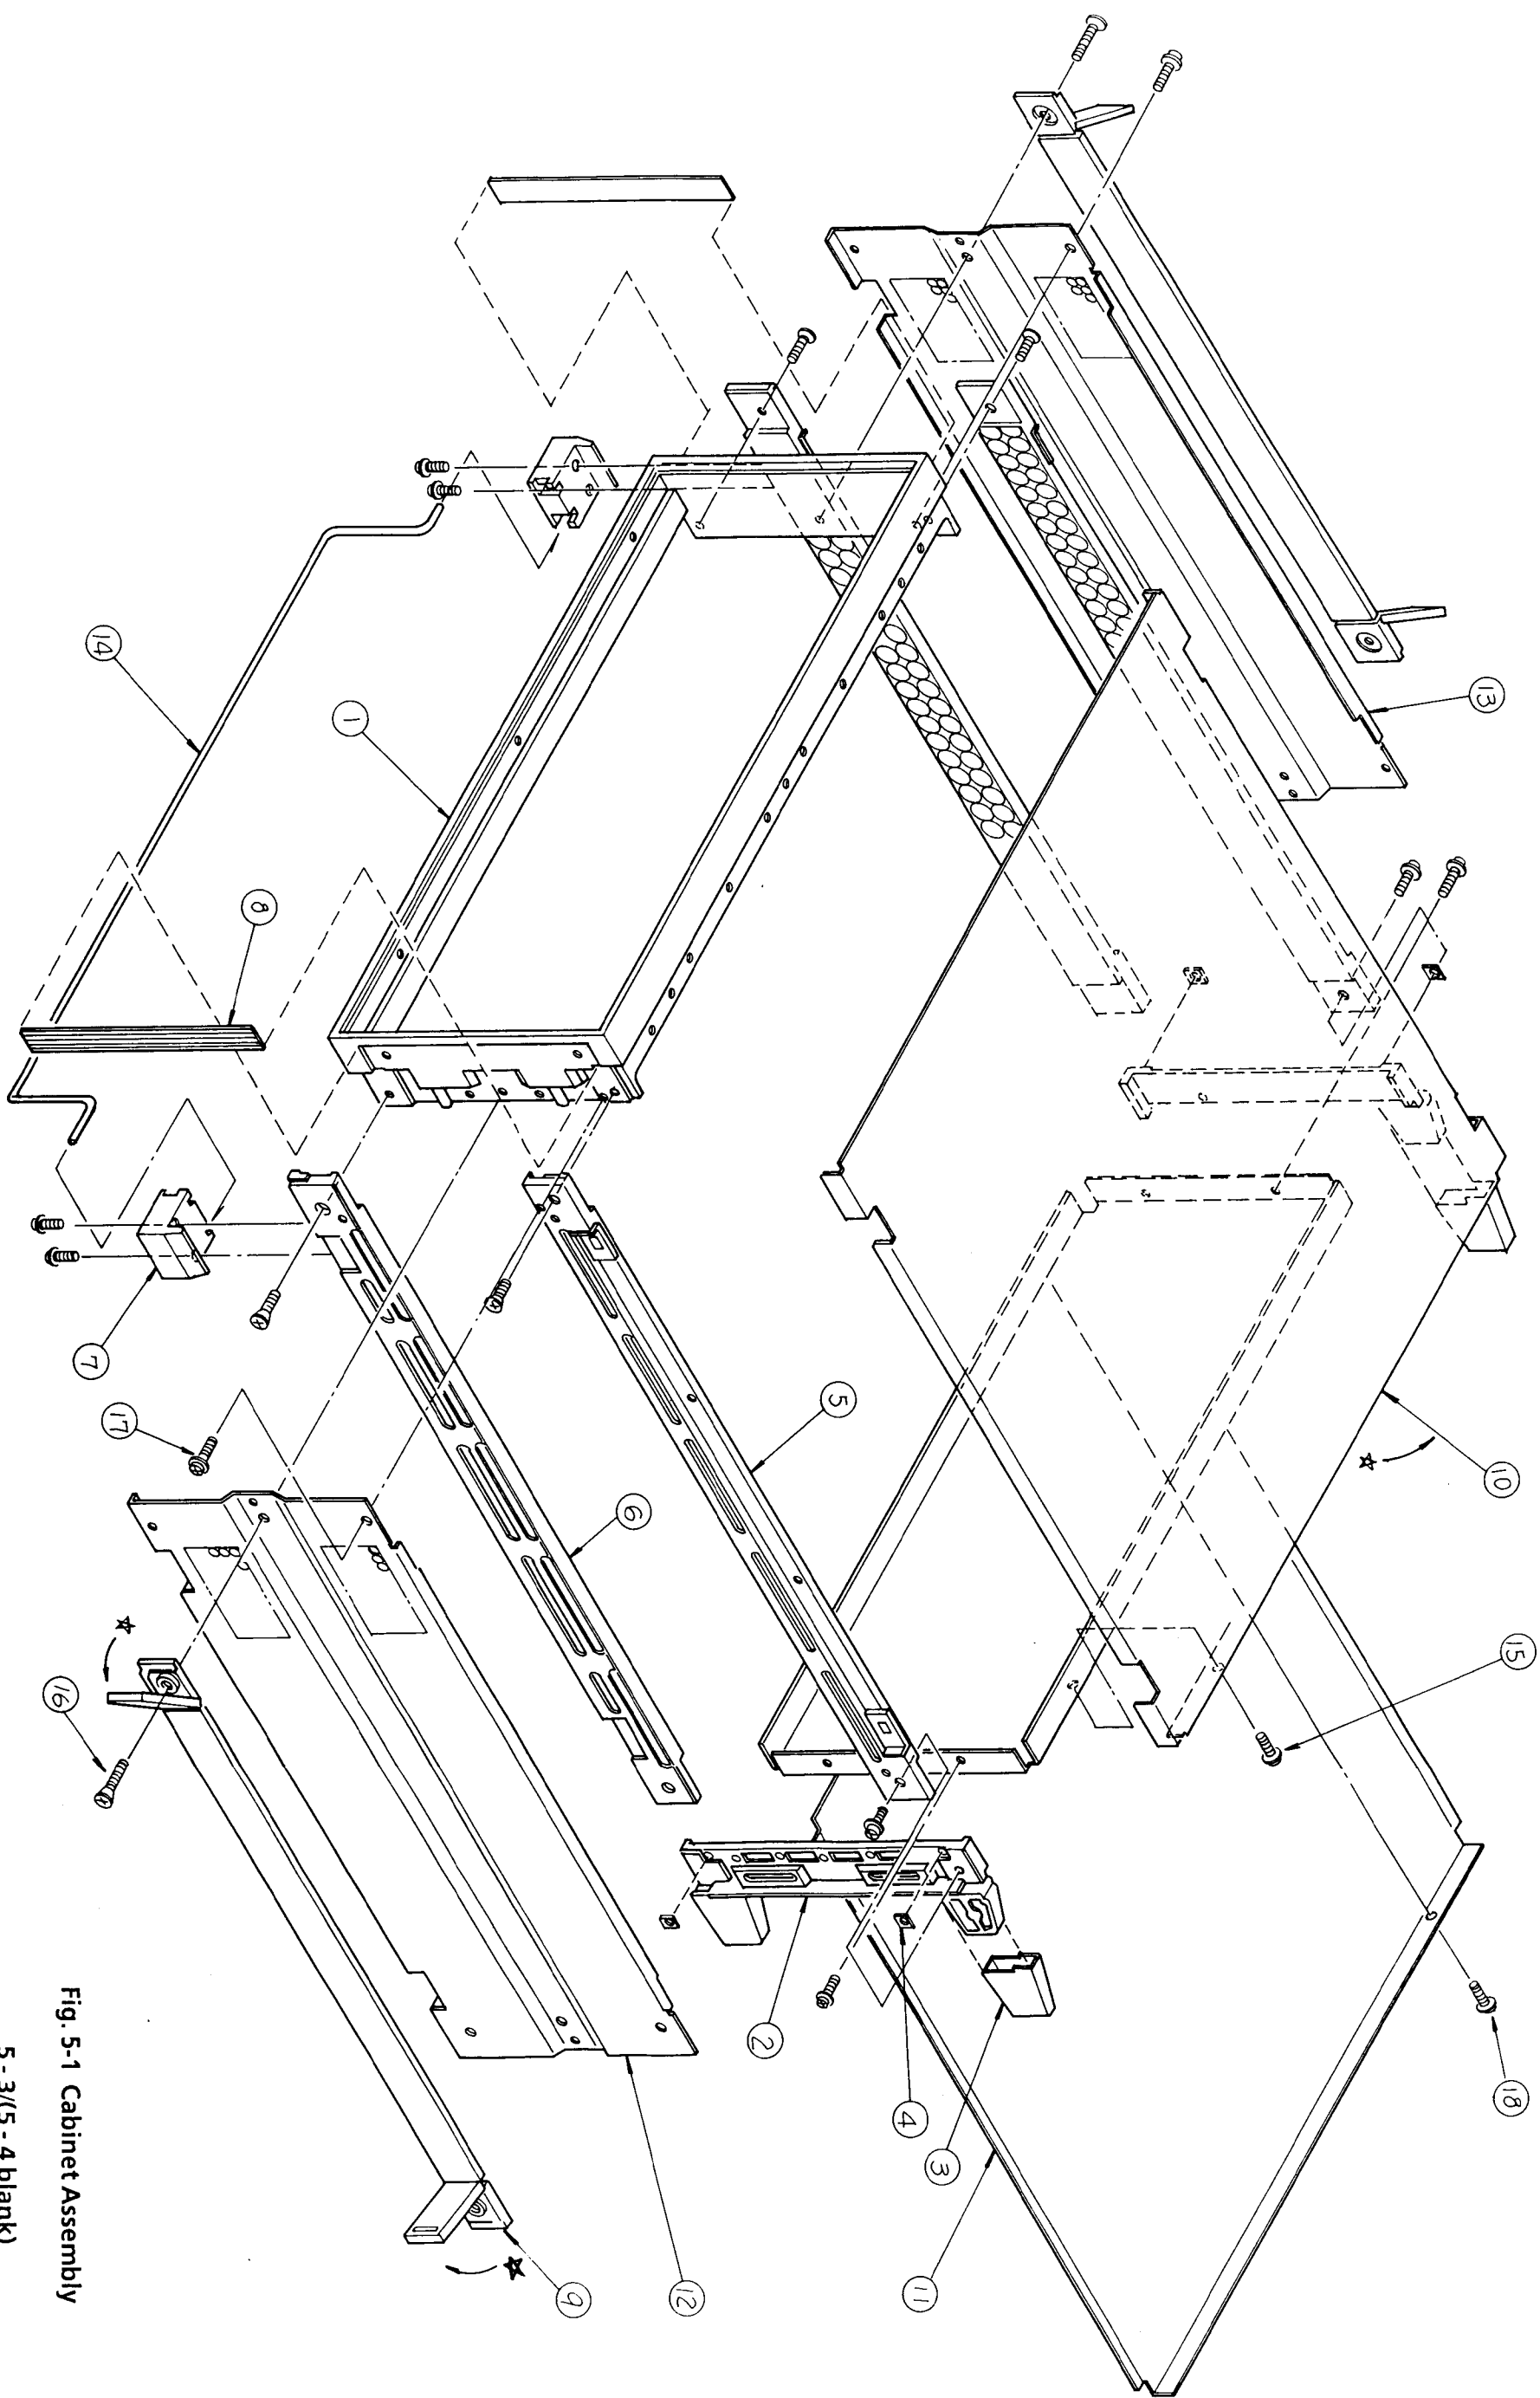

Fig. 5-1 Cabinet Assembly
The numbers in Figs. 5-1 to 5-20 indicate the mechanical parts. Table 5-1 to 5-20 lists the parts with the corresponding numbers.
5.2 Cabinet Assembly (Fig. 5-1)